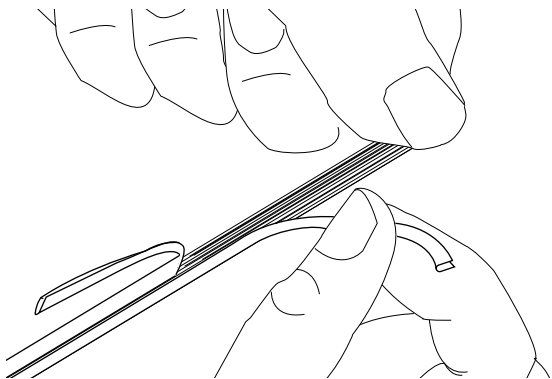

Figure 4
4.3 Use your fingertips to separate the jacket at the end of the cable. Peel back the jacket halves to the scored marks made in steps 4.1 and 4.2 (Figure 4)